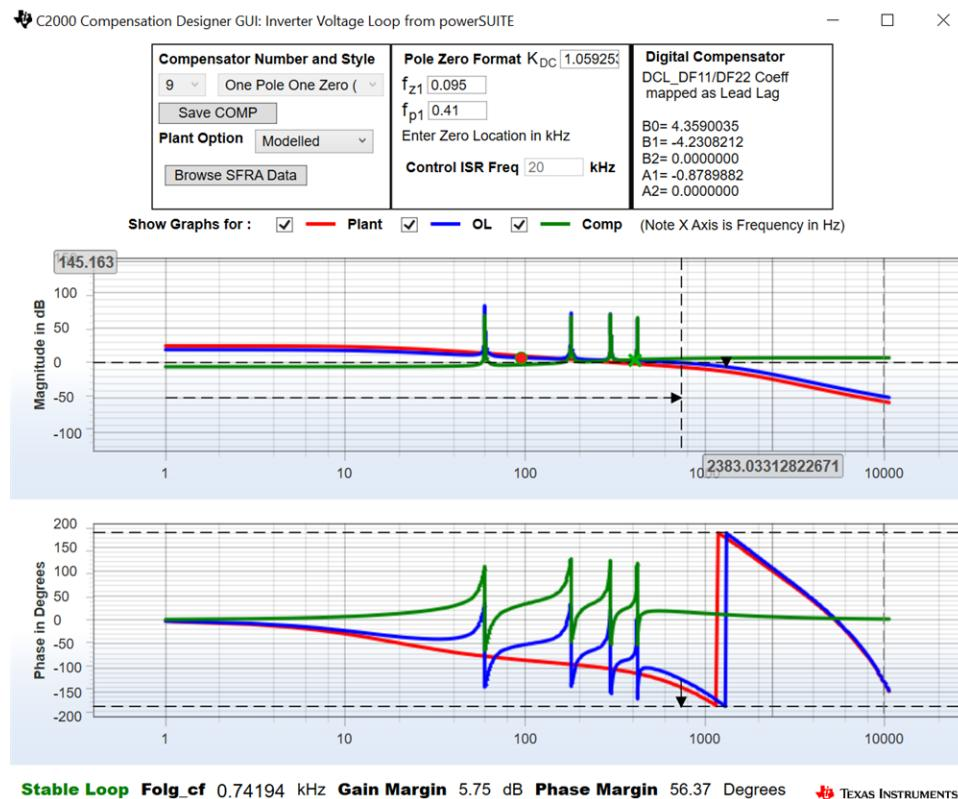

Figure 32. Voltage Loop Lag Compensation Tuning Using Compensation Designer
1. The compensation designer launches with the model of the voltage loop plant for the inverter with the current loop as shown in Figure 32.